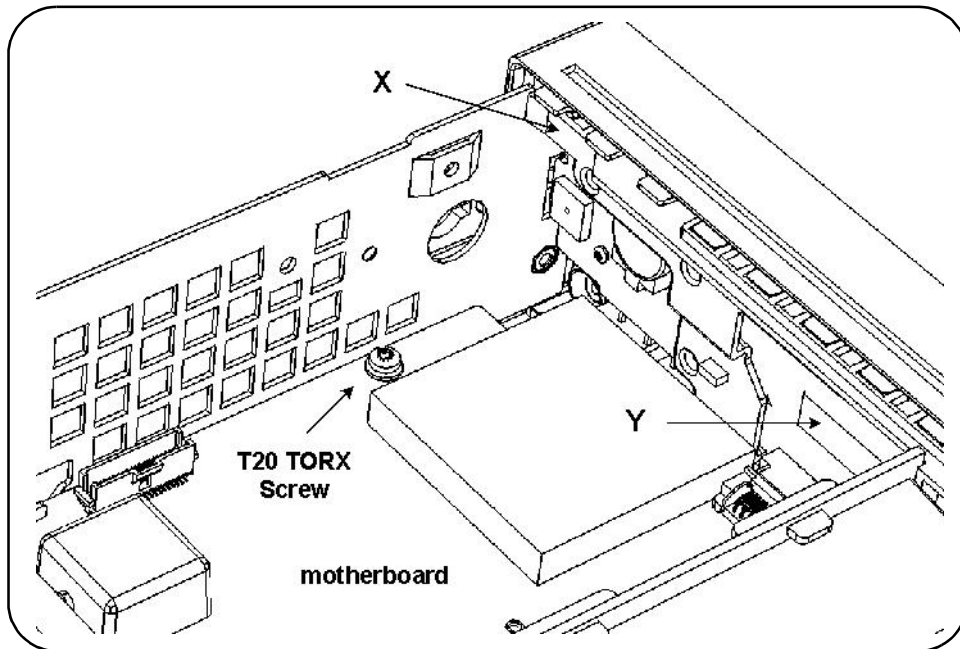

Figure 20. T20 TORX Screw on Motherboard.
5. Turn the counter chassis upright and position the rear panel facing you as shown in Figure 20.
6. Remove the T20 TORX screw on the front left-hand side of the A1 motherboard as shown in Figure 20.
7. With your right hand, press in on the plastic tab (X on Figure 20) at the top left front of the front panel, while at the same time, use your left hand to press in on the front of the left-hand aluminum chassis side-panel, so that the front of the side-panel overlaps the depressed tab and keeps it depressed.
8. On the middle front right-hand side of the front panel, pull the plastic tab (Y on Figure 20) carefully toward the rear of the chassis and simulta-